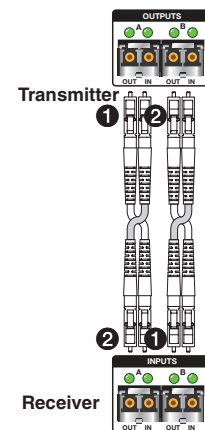

Figure 3. Fiber Cable Connection
NOTE: If only one fiber optic cable is connected (see figure 3 on page 7), RS-232 or IR reports from the controlled device cannot be received. To receive responses from the controlled device, two fiber optic cables must be connected.
- See figure 3 for fiber cable connections. Connect the transmitter to a receiver in one of three ways:
- One way (transmitter to receiver) only, connect transmitter Outputs A (1) to receiver Inputs A (1).
- Two way (transmitter to receiver and return), connect transmitter Outputs A (1) to receiver Inputs A (1) and connect transmitter Outputs A (2) to receiver Inputs A (2).